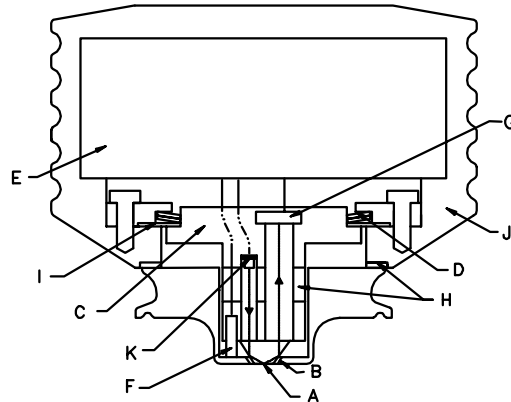

Figure 2.40 Sensor structure.
In the K-Patents Sanitary Refractometer Sensor (Figure 2.40) the measurement prism (A) is flush mounted to the surface of the probe tip. The prism is fixed to the analyzer module (C) which is springloaded (D) against the prism gasket (B). The light source is a light emitting diode (K). The digital image sensor (G) is a CCD element consisting of 1024 photocells in a row integrated on one chip. The image sensor (G) is protected from the process heat by two isolating parts (H). Excess heat is transferred by a heat conductor (I) to the air cooled sensor cover (J).